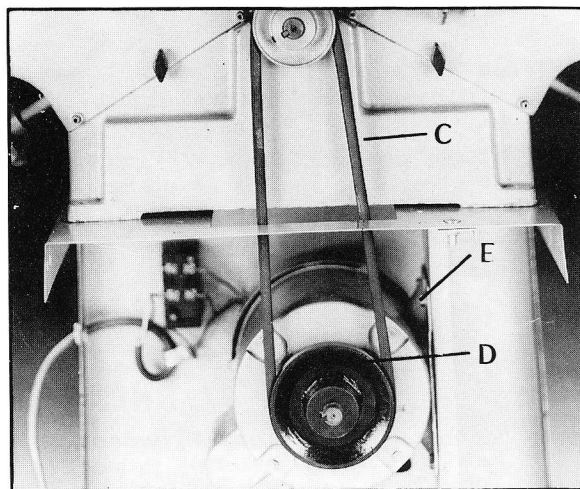

Fig.3
Assemble the belt (C) to the cutterhead pulley and motor pulley (D), as shown in Fig. 3. If necessary loosen the nuts and bolts (E) that fasten the motor to the motor plate and move the motor up or down on the motor plate until correct belt tension is obtained. Correct tension is obtained when there is approximately 1" deflection in the center span of the belt using light finger pressure. Using a straight edge, align the motor pulley to the cutterhead pulley. If necessary both pulleys can be moved in or out on the shafts or the complete motor plate assembly can be moved in or out to bring the pulleys into alignment.